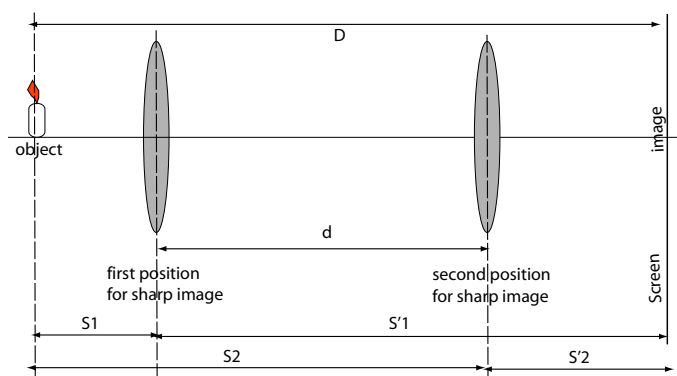

Fig. 9.1
Suppose the lens produces a sharp image of the candle at the two positions as shown in fig 9.1. Let the distance between the object and the image be  $D$  and the distance between the two positions of the lens leading to a sharp image be  $d$ . We have
From figure 9.1 and the above relations we have
1. Place the screen at a distance  $D$  from the illuminated object as shown in fig 9.1.